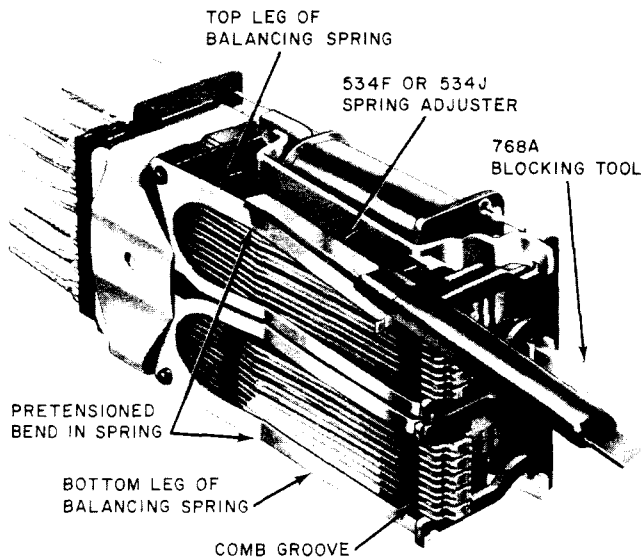

Fig. 7—Method of Adjusting Balancing Spring Tension
(4) Place the slotted portion of the 534F or 534J spring adjuster on the leg of the balancing spring just in back of the two projections at the outer end of the leg. Slide the adjuster back until the end of the insulation on the handle is in line with the end of the spring. This will bring the slotted portion of the adjuster close to the pretensioned bend in the spring as shown in Fig. 7. With the adjuster in this position, bend the spring to the left to increase the tension while maintaining a pressure on the adjuster toward the right. This pressure on the adjuster is necessary in order to avoid distorting the portion of the balancing spring leg to the rear of the pretensioned bend. If necessary to decrease the tension to meet the electrical requirements, bend the spring to the right while maintaining a pressure on the adjuster toward the left. Take care when adjusting the legs of the spring to adjust them in line with their movement and to avoid tilting. Do not adjust more than necessary since repeated adjustment may injure the spring.